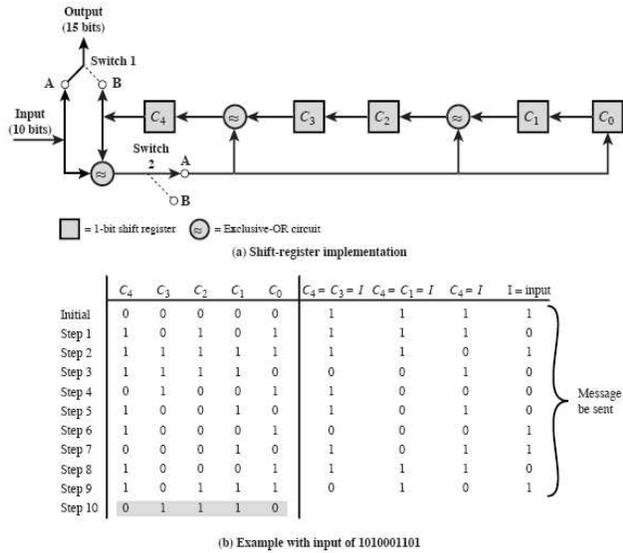

Fig. 2. Case study circuit for CRC checksum generation or checking: \oplus means XOR
The architecture of a CRC circuit is best explained by first considering an example which is illustrated in figure 2 In this example we use
Figure 2(a) shows the shift register implementation. The process begins with the shift register cleared (all zeros). The message, or dividend, is then entered, one bit at a time, starting with the most significant bit. Figure 2(b) shows the step by step operation as the input is applied one bit at a time. Each row of the table shows the value that is currently stored in the five shift register elements. In addition, the row shows the values that appear at the outputs of the three XOR circuits. Finally, the row shows the value of the next input bit, which is available for the operation of the next step. Note that the XOR operation affects C_4 , C_2 and C_0 on the next shift. This is identical to the binary long division shown in figure 3. The process continues for all the bits in the message. To produce the proper output, two switches are used. The input data is fed with both switches in A position. As a result, for the first 10 steps, the input bits are fed into the shift register and also used as output bits. After the last data bit is processed, the shift register contains the remainder (FCS) (shown shaded). As soon as the last data bit is provided to the shift register, both switches go to B position. This has two effects: (1) all the XOR gates become simple pass-throughs; no bits are changed (2) as the shifting process continues, the 5 CRC bits are output. At the receiver, the same logic is used. As each bit of M arrives, it is inserted into the shift register. If there have been no errors, the shift register should contain the bit pattern for R at the conclusion of M. The transmitted bits of R now begin to arrive, and the effect is to zero out the register.